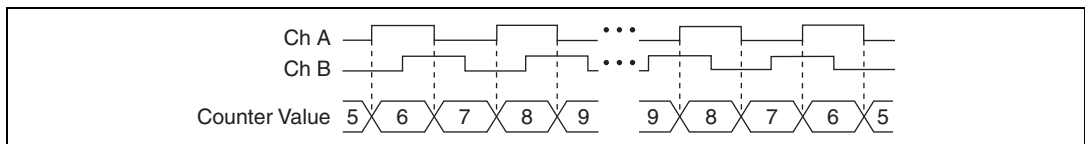

Figure 37. X2 Encoding
- **X2 Encoding**—The same behavior holds for X2 encoding except the counter increments or decrements on each edge of channel A, depending on which channel leads the other. Each cycle results in two increments or decrements, as shown in Figure 37.